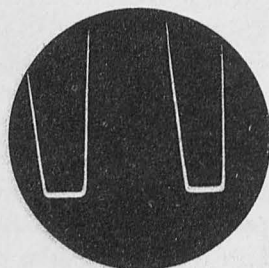

Figure 4-9.
(3) Figure 4-9 shows the result of too high an input voltage which resulted in overloading of the amplifiers of the oscilloscope. This pattern results from too great a signal strength and overloading of amplifiers within the test instrument when attempting an excessive shift of the pattern by means of the Y POSITION control. If necessary, the outside signal should be attenuated and the operator should not hesitate to do so before attempting to correctly interpret the waveforms displayed.